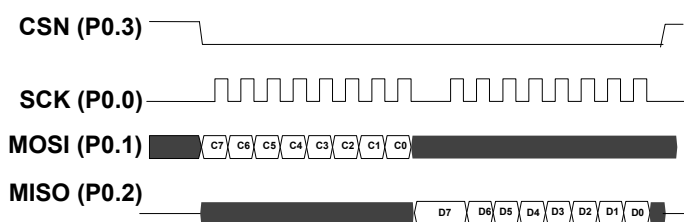
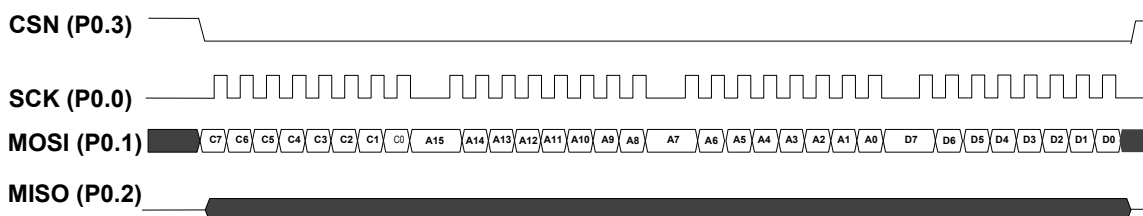

Figure 63. SPI read command without address
Figure 66. SPI OTP write operation, shown with 1 databyte
An SPI command always starts with the external master sending a command byte to the OTP slave, followed by a variable number of address and data bytes. The number of address and data bytes is specific to each command, as shown in Table 119. on page 141. In Figure 63. on page 141 to Figure 66. on page 142,  $C_n$  are the SPI command bits.  $A_n$  are the address bits and  $D_n$  are the data bits (note: MSBit in each byte first). After  $CSN$  is deactivated, an OTP write command requires the chip to do the OTP programming, and this will take some time to complete. Therefore, it is advised to not issue a new command until the specified amount of time has elapsed. Alternatively, you can repeatedly issue `RDSR` commands until the `FSR.RDYN` bit reads back as 0.
The SPI command `RDSR` reads out the content of the OTP status register `FSR`, and consists of one-command byte and one-data byte as shown in Figure 63. on page 141. By keeping the `CSN` line active after the first data byte, `FSR` will be repeatedly re-read until `CSN` is set inactive.
3. The `PROGRAM` command is sent on the `MOSI` line followed by the two-byte address (address of the first byte) and the data to be programmed/ written, as shown in Figure 66. on page 142.
The SPI command `RDFPCR` reads out the content of the OTP protect configuration register `FPCR`, and consists of one command byte and one data byte as shown in Figure 63. on page 141.